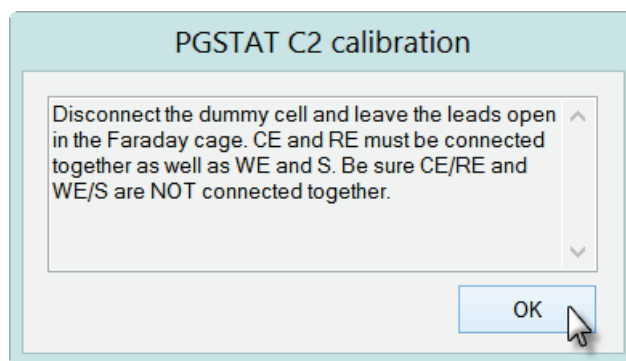

Figure 1.112 – A reminder message is shown at the beginning of the measurement
4. A reminder message is shown at the beginning of the measurement (see Figure 1.112).